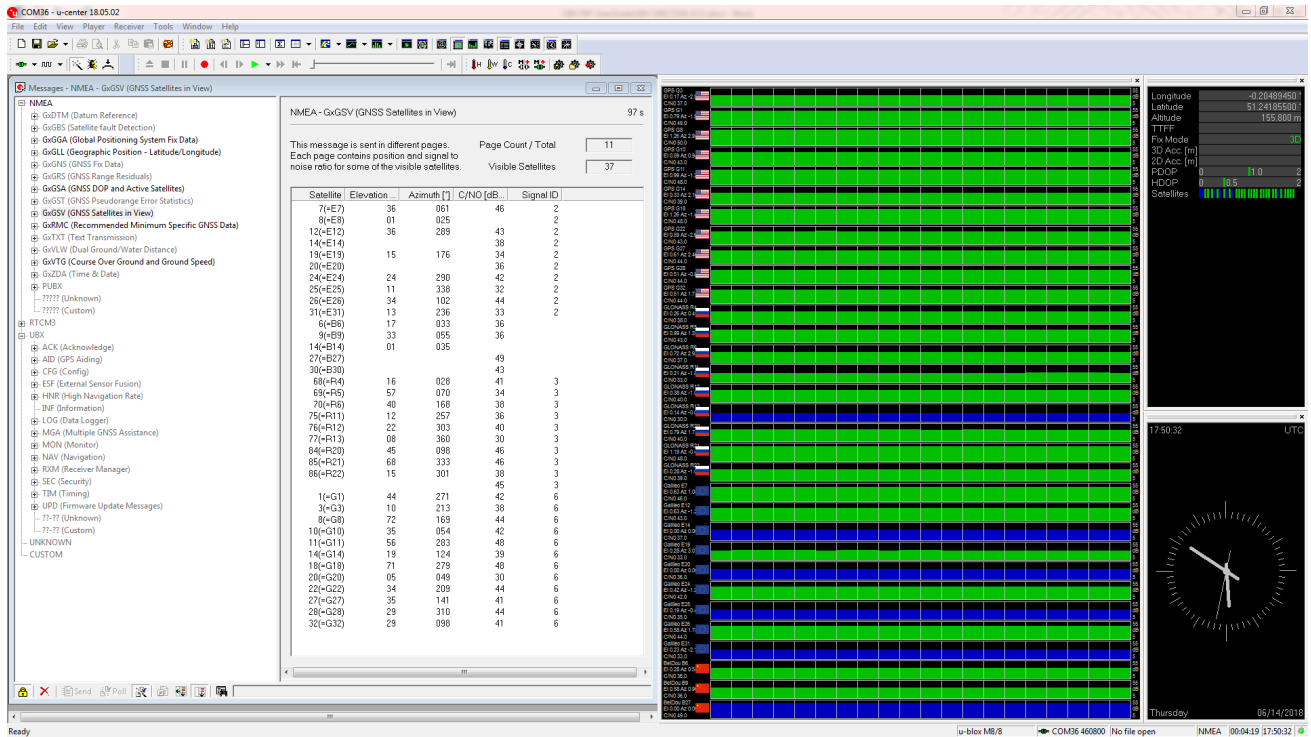

Figure 3: u-center showing a view of the ZED-F9P default operation
- The time pulse LED on the C099-F9P board will blink in blue. Figure 3 below shows a typical u-center view with active satellite signal levels.